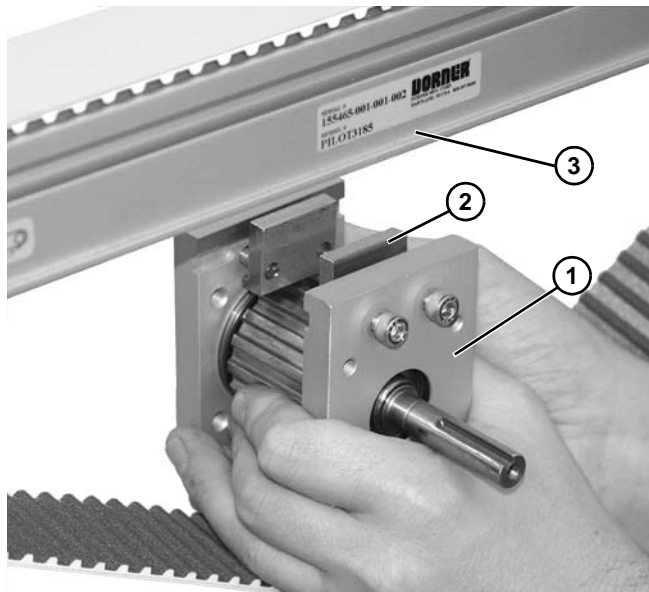

Figure 88
7. Raise center spindle assembly (**Figure 88, item 1**) tracking clamp block (**Figure 88, item 2**) onto conveyor channel (**Figure 88, item 3**) on each side of conveyor frame.